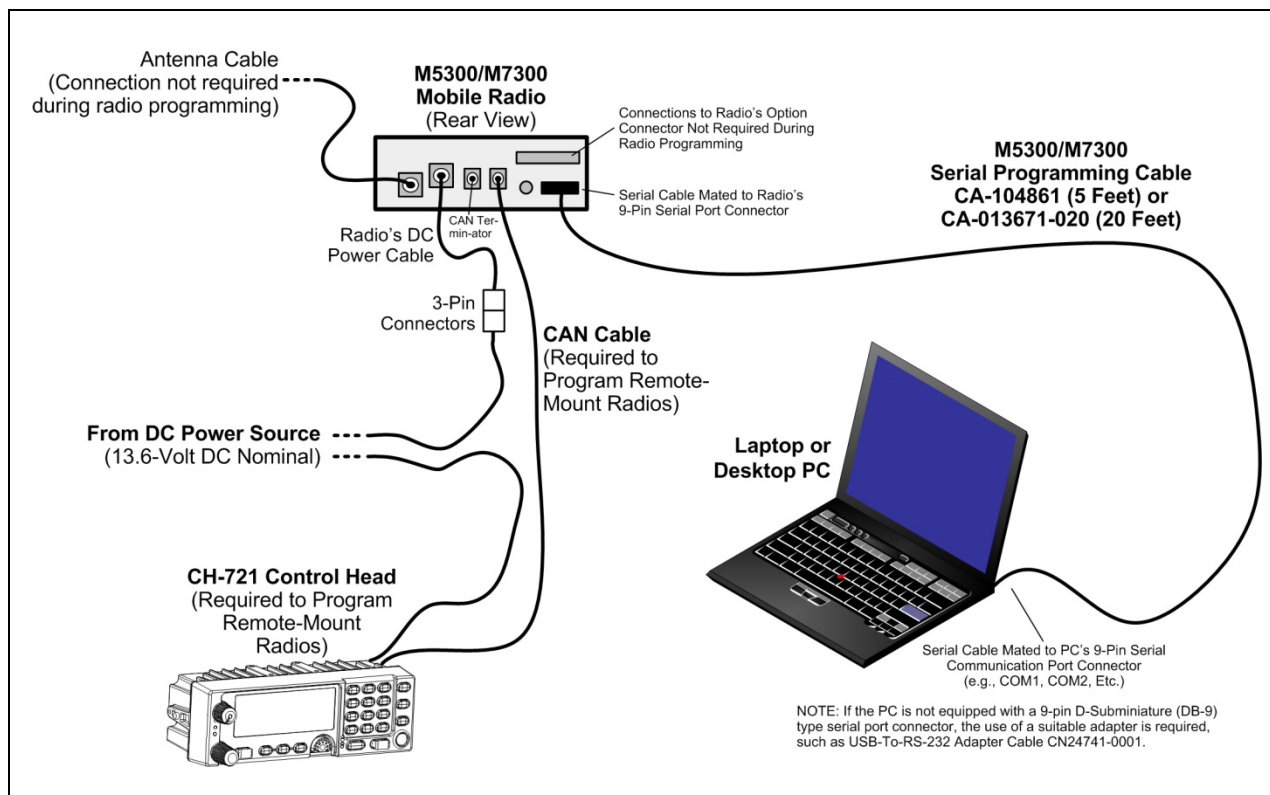

Figure 10-1: Cable Connections for Radio Programming
1. As illustrated in Figure 10-1, connect the radio to a personal computer with the Radio Personality Manager (RPM) programming software installed on it. Use Serial Programming Cable CA-104861 (5 feet long), CA-013671-020 (20 feet long), or equivalent, to connect the computer's serial port to the 9-pin (DB-9) connector on the rear of the radio.
1. Connect the radio to a personal computer with the Radio Personality Manager (RPM) programming software installed on it. Use Serial Programming Cable CA-104861 (5 feet long) or CA-013671-020 (20 feet long), or equivalent, to connect the computer's serial port to the 9-pin (DB-9) connector on the rear of the radio. Connections are illustrated in Figure 10-1.
to connect the computer's serial port to the 9-pin (DB-9) connector on the rear of the radio. Connections are illustrated in Figure 10-1.